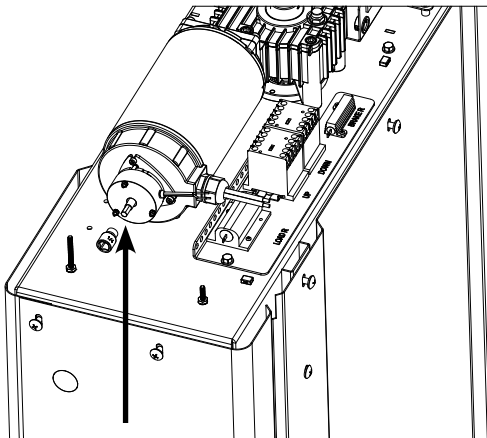

Figure 3-6
- If you have a 3/8" drive ratchet or a cordless drill with a 3/8" socket adapter bit you can use the 1/4" socket for lowering. Power the drill in the forward direction - rotating clockwise to lower the platform. **See Figure 3-6.**